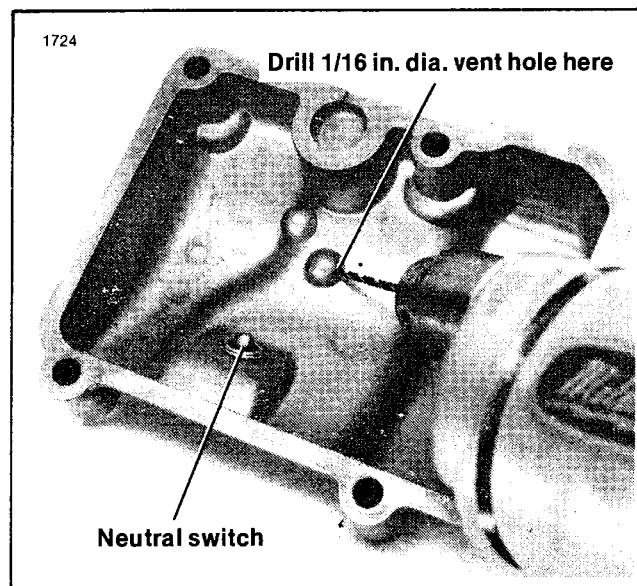

Figure 3. Drilling Vent Hole in Transmission Cover
5. See Figure 3. Drill a 1/16 in. dia. hole at a slight angle through the side of the boss located on the underside of the transmission cover into the rearmost clutch cable bracket bolt hole. Clean all metal shavings from the hole with compressed air.